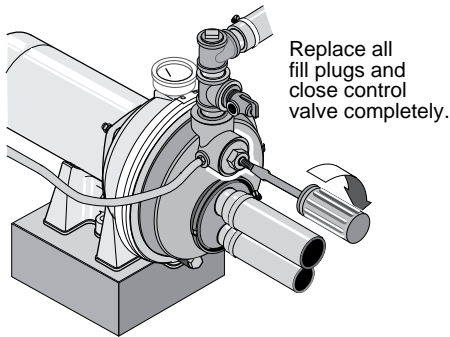

Figure 19: Prime Pump
2. Replace all fill plugs and close the control valve completely (Figure 19).